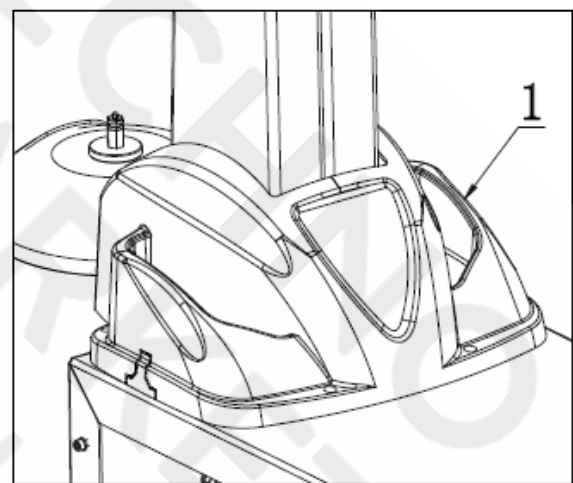

FIG14
- Installation of the column protective cover: Position the protective cover (FIG14-1) at the upper block of column. Align the hole and install it using 4 pcs M6 screws as shown in FIG14.